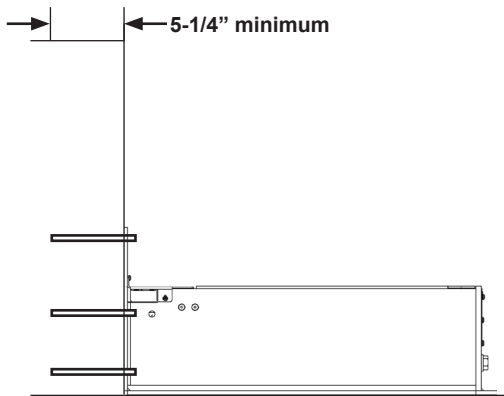
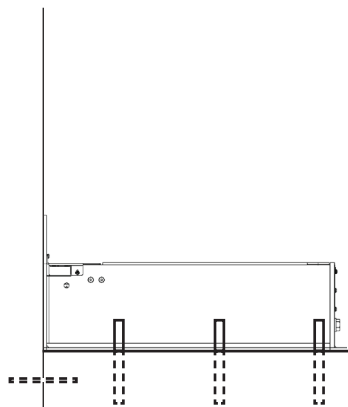

Figure 8
Figure 14
Using back plate as a guide, drill six (6) holes for wedge anchors (3/4" x 5-14" min, see Figure 8). Install anchors.
Using base weldment as a guide, drill six (6) holes for wedge anchors (3/4" x 5-1/4" min, see Figure 8). Install anchors. See Figure 14.